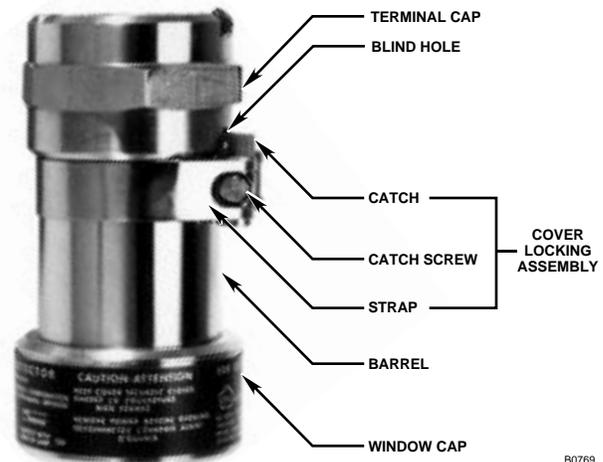

Figure 10—Detector with Cover Locking Assembly
2. Disassemble the detector enclosure by turning the housing cover counterclockwise. If the detector is equipped with a cover locking device, loosen the clamp and disengage the “catch” from the terminal cap. See Figure 9 for an illustration of the detector assembly and Figure 10 for the optional cover locking assembly. The tool required for the BASEEFA clamp is a 5/32 inch hexagonal (Allen) wrench. For the P.T.B. clamp, a triangular m4 (7 mm) wrench (Din 22417) must be used.
- Re-assemble the detector housing. If the detectors are equipped with cover locking devices, loosen the clamp sufficiently so that the "catch" can be seated in the blind hole provided on the terminal cap. (See Figure 10.) The clamp must then be fastened securely around the detector barrel by tightening with the proper tool.